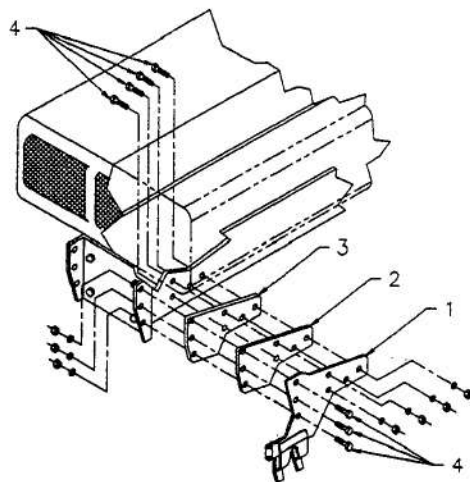
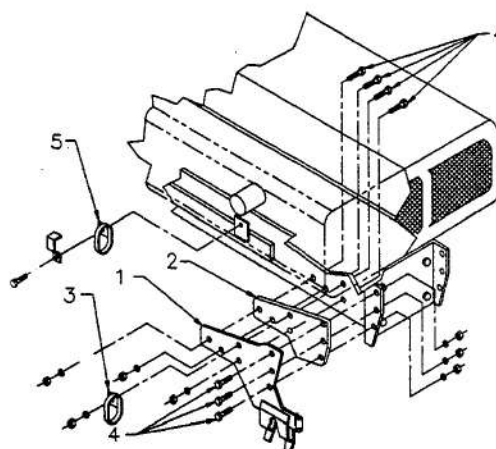

FIGURE 2
FIGURE 3
Install left hand attaching plate (fig.2, item 1) with shim 3/8" thick (fig.2, item 2, seven drilled holes) and shim 1/2" thick (fig.2, item 3, seven drilled holes), using seven bolts M14 X 60 mm (fig.2, item 4) with lockwashers and nuts. Install right hand attaching plate (fig.3, item 1) with shim 1/2" thick (fig.3, item 2) and hose support (fig.3, item 3) at indicated positions using seven M14 X 50 mm (fig.3, item 4) bolts with lockwashers and nuts. Do not tighten yet. For hose support (fig.3, item 5) use bolt and hose support of the tractor, under the oil filter.